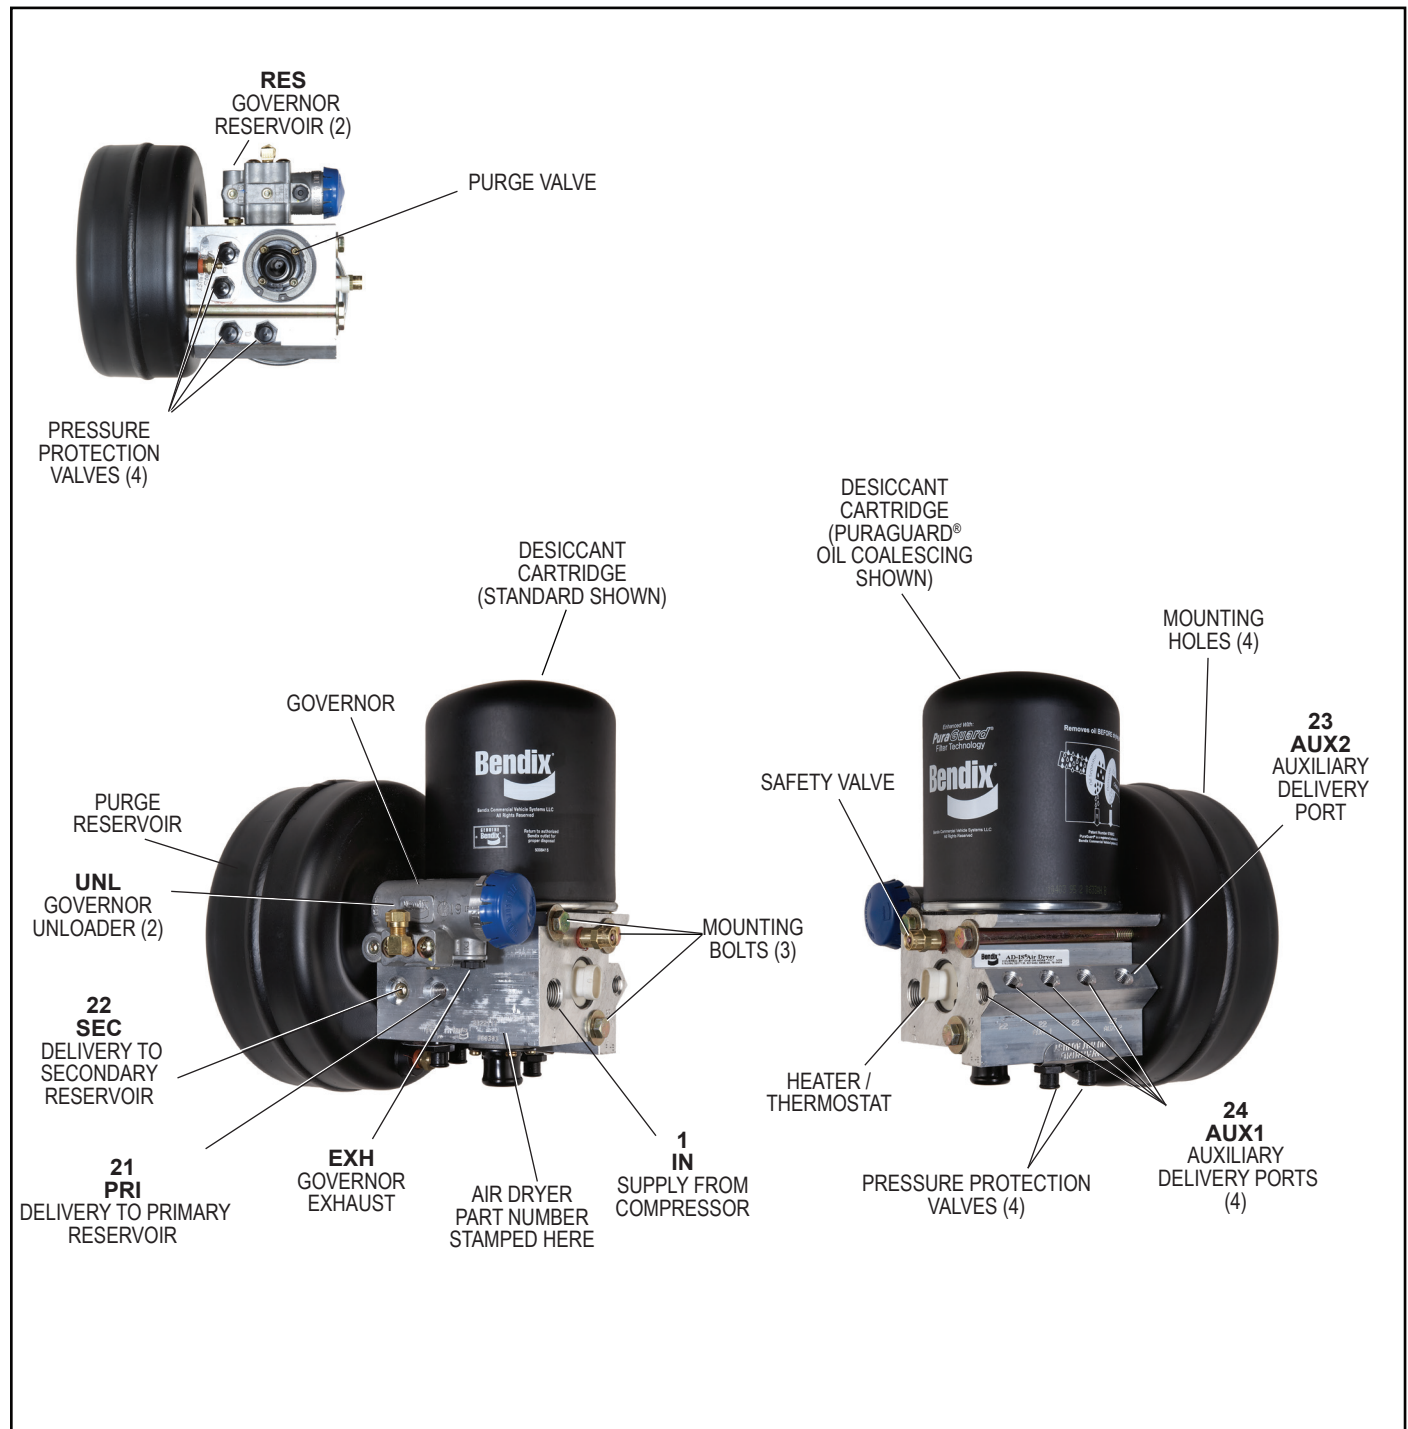

FIGURE 1 - BENDIX® AD-IS® AND AD-IS® PURAGUARD® OIL COALESCING AIR DRYER AND RESERVOIR SYSTEMS
3. Check the AD-IS® air dryer and purge reservoir bolts for tightness. *See Figure 1.* Re-torque the three air dryer bolts to 360–420 in-lbs and the four purge reservoir bolts to 300–360 in-lbs.